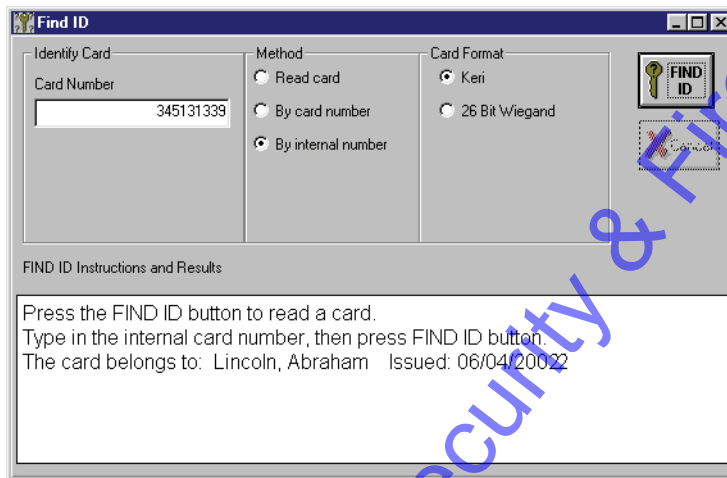

Figure 4-55: Card Identified by the Internal Number
6. The user's name and date of issue is displayed in the “Find ID Instructions and Results” field (see Figure 4-55).